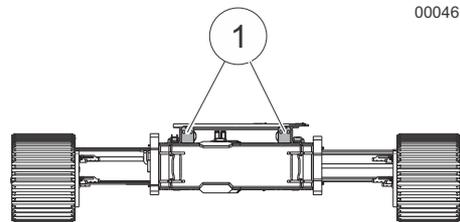

Fig. 118 Hydraulic connections on the undercarriage
- 20 | Connect the travel drive hydraulics at the designated positions (1) in Fig. 118 Fig. 118 on the back of the undercarriage.